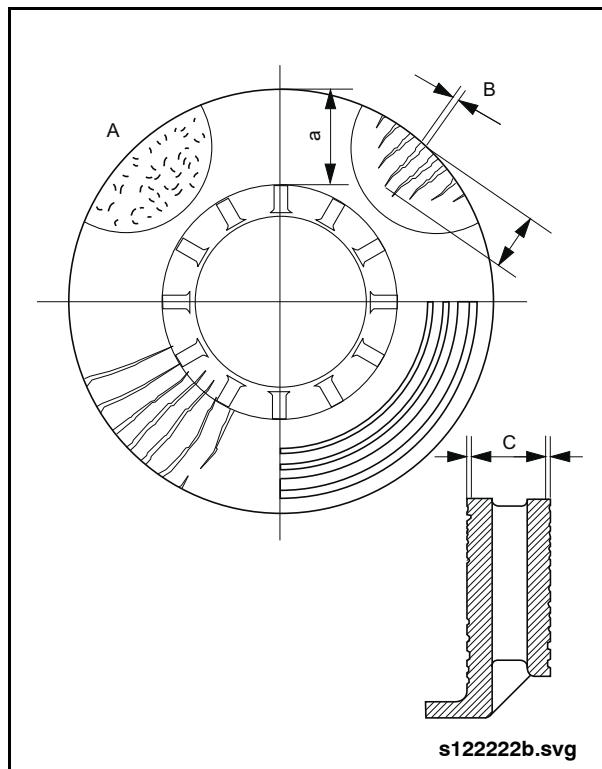

Fig. 2-114: Brake Disc Condition
3. Inspect the brake disc for cracks and scoring. See "Fig. 2-114: Brake Disc Condition" on page 101.